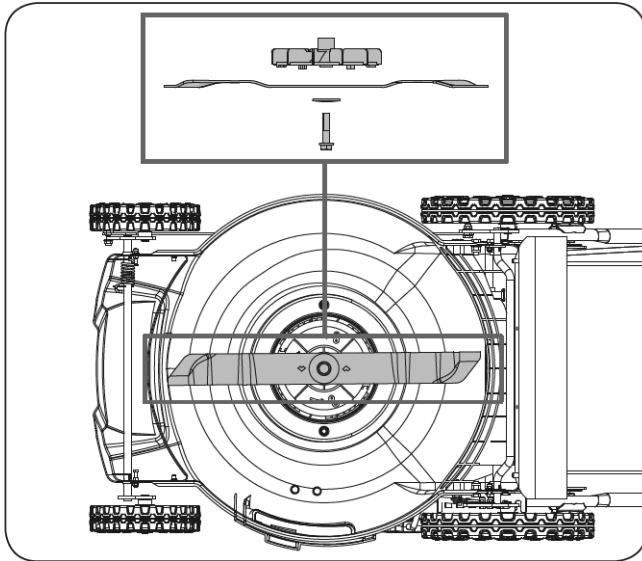

Figure 17
2. Remove the blade, saving all mounting hardware. Examine the blade support and blade bolt to see if there is damage. Examine the motor shaft to make sure that it is not bent. (See **Figure 17**)